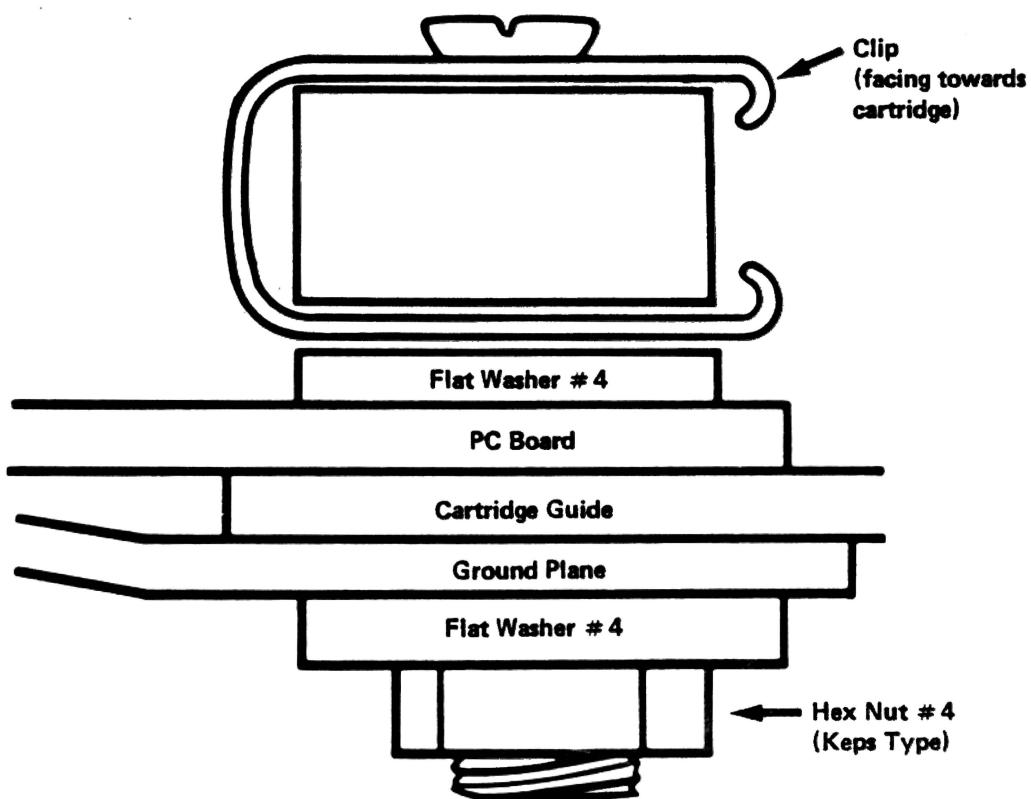

FIGURE 1
- (3) Put one RFI clip on each end of the Cartridge Connector, and install the small washer between the RFI clip and the PCB (see Figure 1). The open side of the RFI clip should face towards the cartridge. Insert the long screw through the RFI clip, the cartridge connector, the small washer, the PCB and the PCB shield. Insert the Cartridge Guide between the PCB and the PCB shield. Install a large washer and nut on the long screw.
- (4) Install the PCB into the case bottom. Attach the case top.